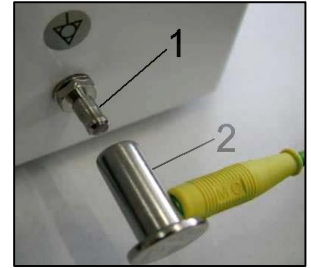

Fig. 10
- Connect the pin for equipotential bonding  $\varnothing$  6 mm (1) to the electrical circuit using the defined method under valid electrical engineering regulations. The socket for equipotential bonding (2) is an accessory and is not provided in the basic package. (Fig. 10)